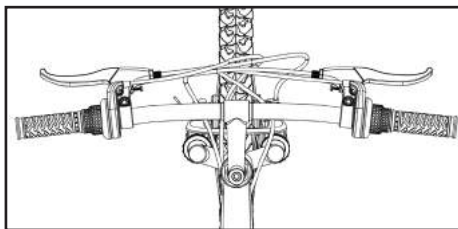
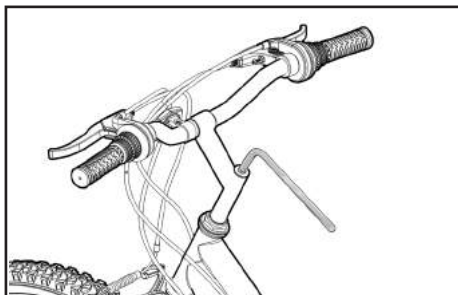
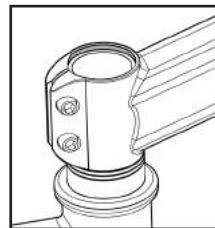

Figure 18
Figure 19
Figure 21
The stem should be pointing towards the front of the bike, aligned with the front tire (see Figure 18). Depending on the type of bolt, tighten the stem bolt with either (B) an adjustable wrench or (C) a 4, 5, or 6 mm Allen wrench (see Figure 19).
Loosen the bolts on the side of the stem, slide the stem into place, making sure it lines up with the fork (see Figure 18). Check the gap between the steer tube and stem, ensuring there is enough space to reinstall the cap and bolt. (See Figure 21) If you need it higher or lower, your local bike mechanic can help you out with the adjustment. Snug the pre-load bolt on top. Then tighten the two bolts on the side of the stem, alternating each bolt.